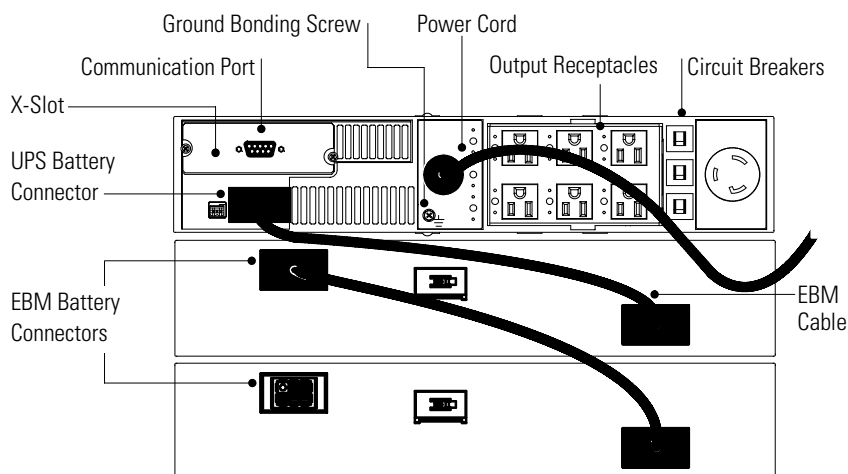

Figure 13. Typical Installation with Two EBMs
The following steps explain how to install the UPS. Figure 13 shows a typical installation only. See “UPS Rear Panels” on page 26 for the rear panel of each model.
2. Plug the EBM cable into the UPS battery connector (see Figure 13).